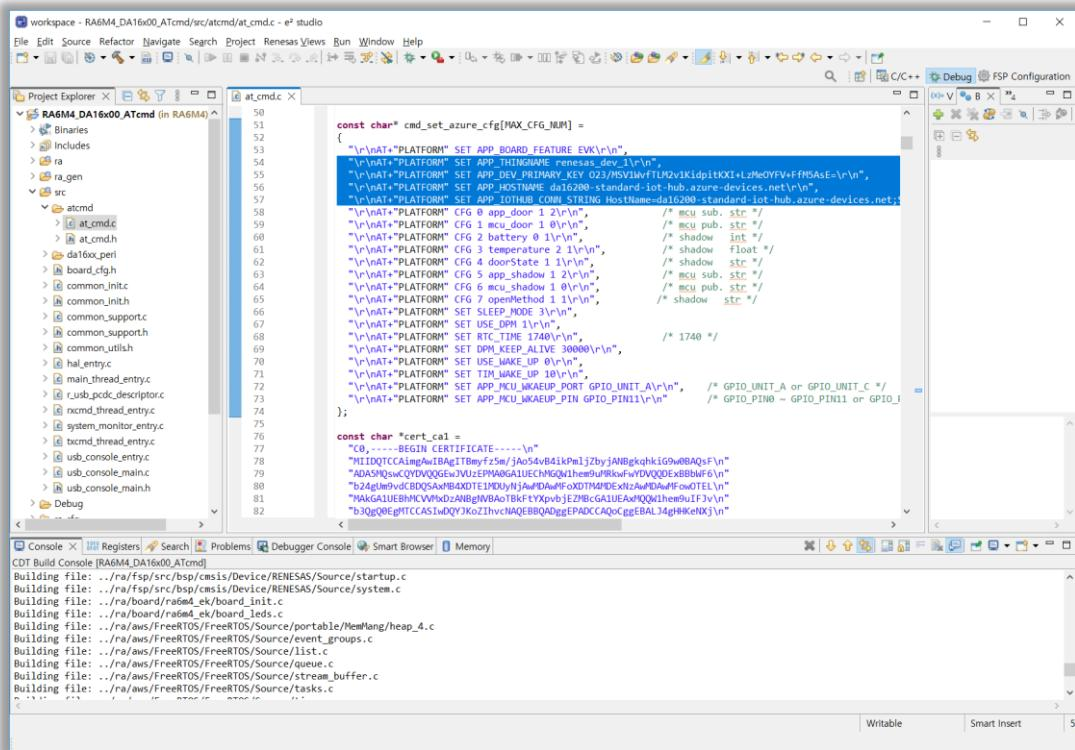

Figure 51: Thingname/Primarykey/Hostname/iotHub Connection String
4. Change the configuration to the received configuration (see Figure 51).